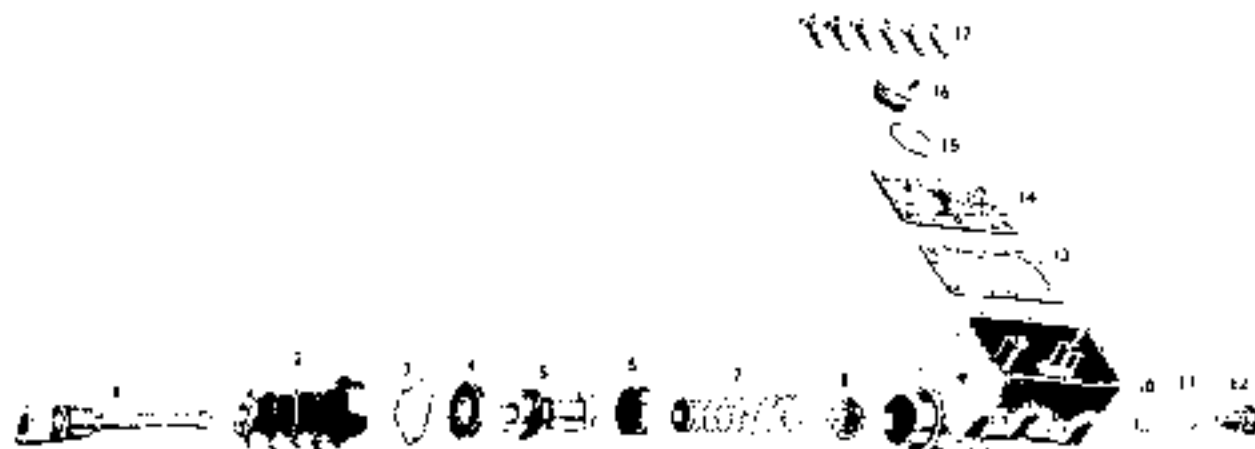

FIG. 373
The master cylinder housing is of the cast aluminum type. The cover over the fluid reservoir as shown in Fig. 373 has been removed for illustration purposes only. It is usually not necessary to remove the cover during the disassembly and servicing procedures.
To disassemble the unit, slip the large end of the boot (2, Fig. 373) from the groove of the master cylinder barrel (9); and remove the boot and push rod (1) assembly. Disassemble the boot and push rod assembly by lifting the small end of the boot from the groove in the push rod and then pulling the push rod from the boot.
Install the check valve (8, Fig. 373) on the return spring (7), and install in the cylinder bore. Place the primary cup (6) and piston assembly (5) in the master cylinder bore and install the piston stop (4) and piston stop lock wire (3). Be sure that the lock wire is well seated in the groove. Install the boot (2) on the push rod (1) and install the assembly on the master cylinder. Install the filler plug (16) and gasket (15). Install the outlet fitting bolt (12) and gaskets (10 and 11), and if equipped with a hill holder, install the hill holder on the master cylinder.